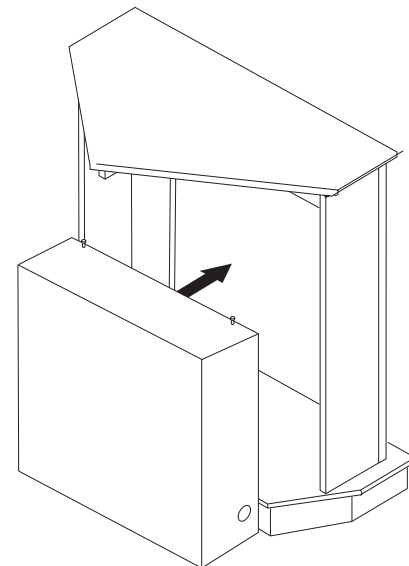

Figure 6 - Installing Gas Fireplace
5. Position fireplace inside mantel through back opening (see Figure 6). Carefully position gas lines if applicable. **IMPORTANT:** Use caution when positioning fireplace on base. Base may scratch easily. Make sure fireplace is in proper position within mantel opening before continuing with installation.